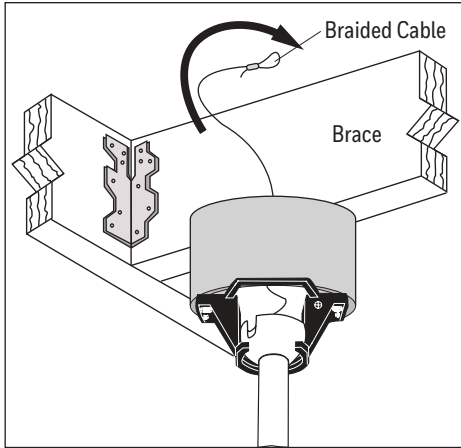

Figure 4.1
1. **WARNING:** Secondary support is required for this product. Failure to follow the steps below could result in property damage and/or personal injury. Feed the loop of the braided cable, preassembled to the motor assembly, up through the outlet box mounted in the ceiling (Figure 4.1).